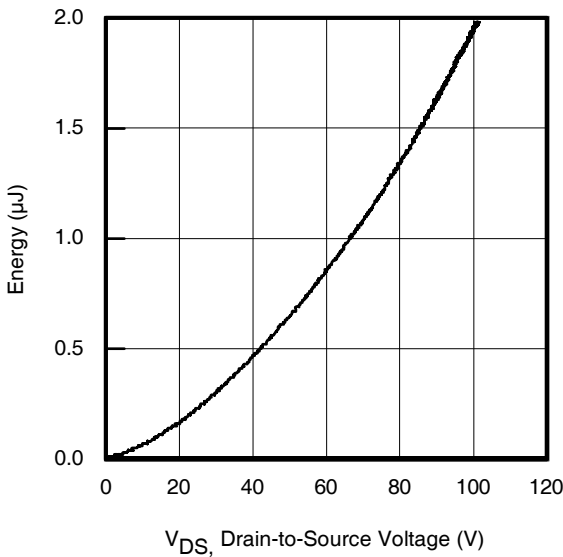

Fig 11. Typical COSS Stored Energy
| C oss eff. (ER) | Effective Output Capacitance (Energy Related) | —    | 420  | —    |       | V GS = 0V, V DS = 0V to 80V ⑦, See Fig.11 |